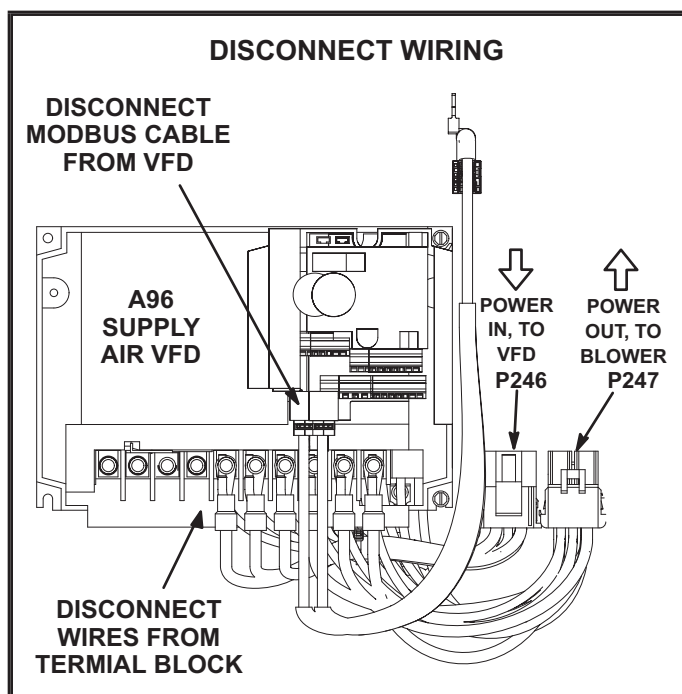

FIGURE 11
- 2 - Mark the wires leading to the terminal block on the bottom of the VFD with appropriate terminal name. Disconnect wires from the terminal block. See FIGURE 11.